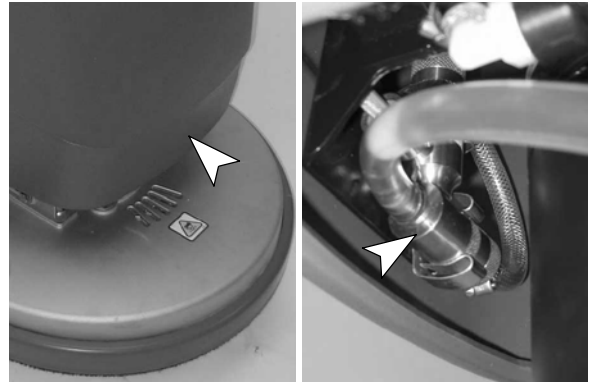

FIG. 54
1. Lower scrub head and remove the detergent injector from the two spring clamps (Figure 54).